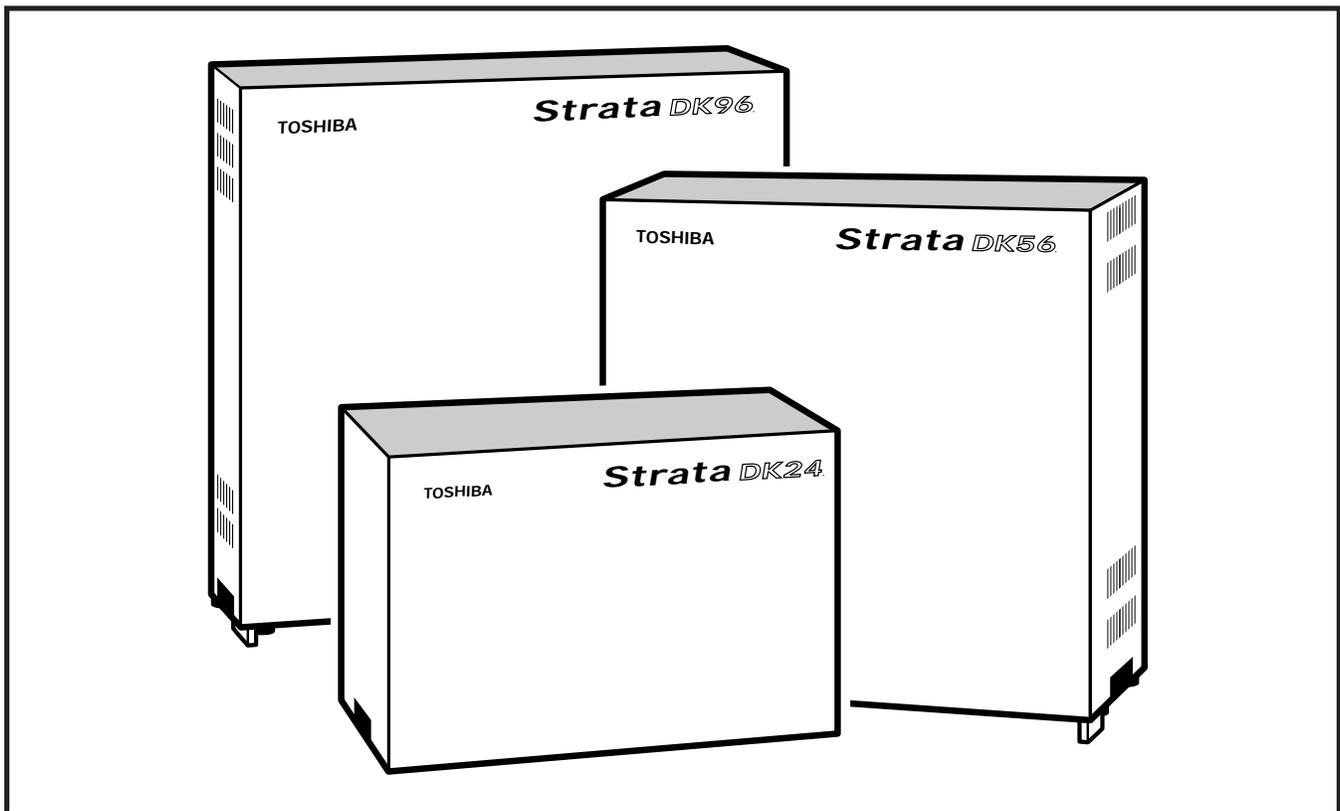

FIGURE 2-1
1.11 The main unit of each STRATA DK system is the KSU (Figure 2-1), which houses the power supply and a number of slots which can support a number of optional PCBs, to which stations and peripherals are connected. The quantity and type of PCBs, stations, and peripherals installed depends on the user's requirements. The primary differences between the STRATA DK systems are KSU sizes, PCB capacities, and power supplies.